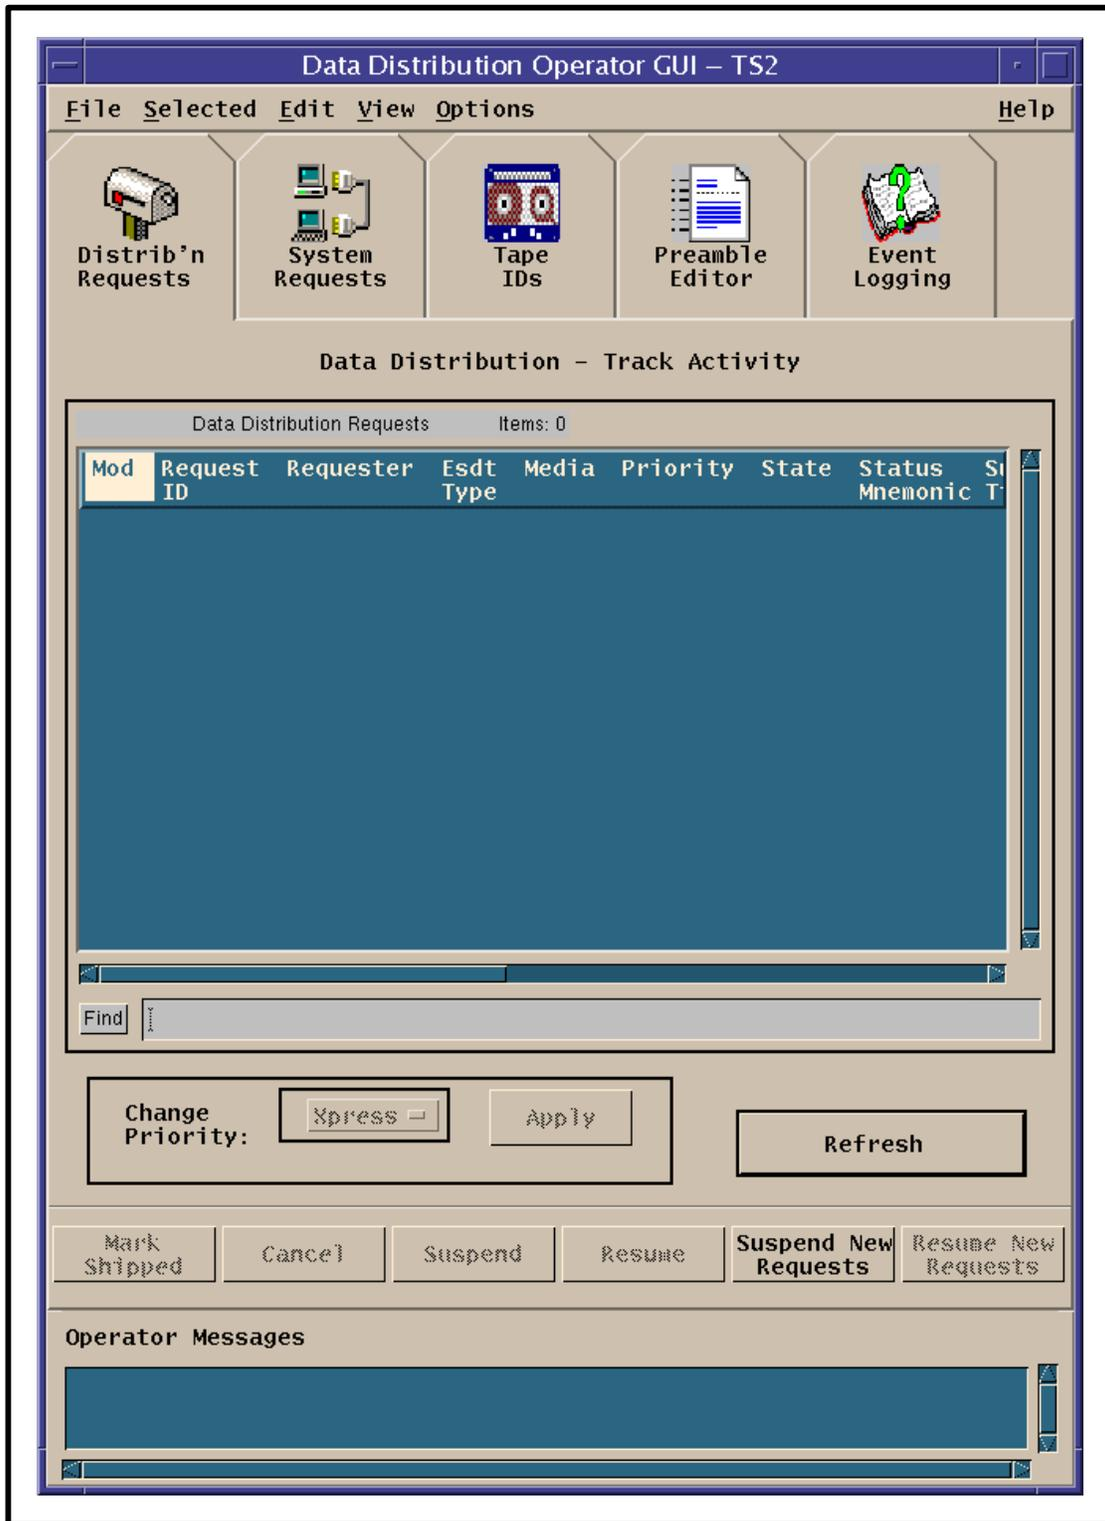

Figure 5. Distrib'n Requests Tab (Data Distribution Operator GUI)
- The **Data Distribution Operator GUI Distrib'n Requests** tab (Figure 5) is displayed.
The Ingest/Distribution Technician monitors and manages data distribution requests primarily via the **Data Distribution - Track Activity** window of the **Distrib'n Requests** tab (Figure 5) on the **Data Distribution Operator GUI**. From the **Data Distribution - Track Activity** window the DAAC Ingest/Distribution Technician can perform the following functions:
The procedure for monitoring data distribution requests starts with the assumption that all applicable servers and the **Data Distribution Operator GUI** are currently running and the **Distrib'n Requests** screen (Figure 5) is being displayed.
The procedure for configuring data distribution polling starts with the assumption that all applicable servers and the **Data Distribution Operator GUI** are currently running and the **Data Distribution - Track Activity** window (Figure 5) on the **Distrib'n Requests** tab is being displayed.
The distribution requests to be displayed in the **Data Distribution Requests** list (**Data Distribution - Track Activity** window shown in Figure 5) can be filtered using the **Distribution**